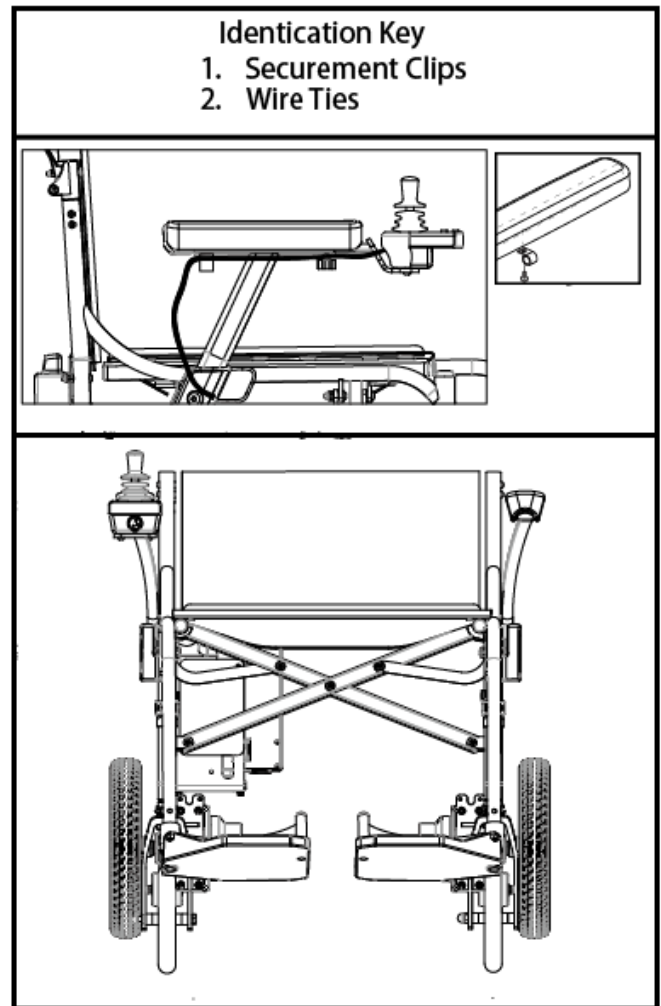

Figure 10. Controller Position
4. Insert the controller Joystick into the armrest and tighten the thumbscrew, then latch the quick release handle. **See figure 6.** Hook the controller harness to the securement clips. **See figure 10.**
11. Use wire ties to secure the controller harness to the frame, and hook the controller harness to the securement clips. **See figure 10.** Ensure that the armrest can freely be raised and lowered without any tension on the harness so the securement clips do not become disconnected.